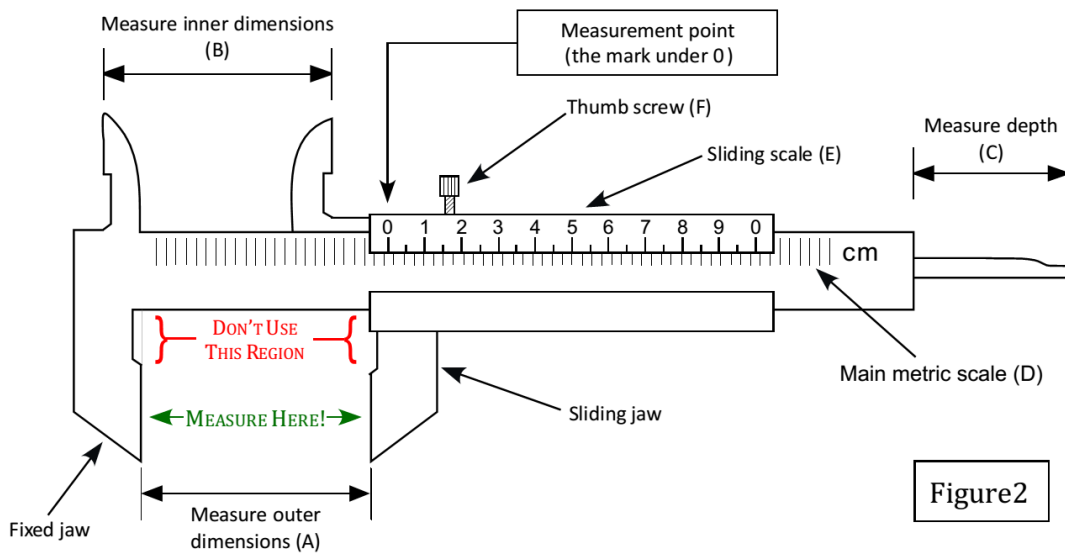
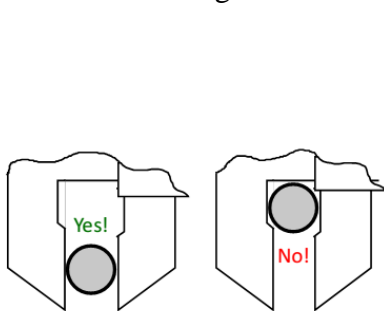
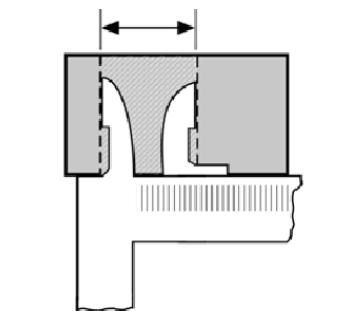
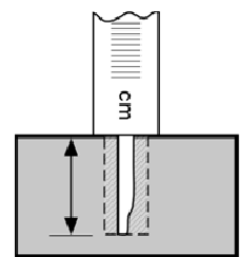

Figure2
Figure2a
Figure2b
Figure2c
Figure 2 below is a sketch of a typical vernier caliper, similar to the type you will use in this course. Most frequently you will use the larger “jaws” (A) to measure outer dimensions, such as the width of a block or circular rod (Figure 2a). This instrument can also be used to measure inner dimensions, such as the diameter of a hole, using part (B) (Figure 2b), as well as the depth of a hole, using part (C) (Figure 2c). The vernier scale is read the same in each case no matter which portion of the caliper is used take your measurement.
1. Loosen the thumb screw clamp (F), if necessary, and close the sliding jaw so that it fits snugly on the object to be measured. If the object is circular or spherical, make sure you are measuring at the widest point. When measuring outer dimensions, be sure to use the flat section of the caliper jaws; don't use the region marked in Figure 2. See Figure 2a for the proper placement of a small circular object.